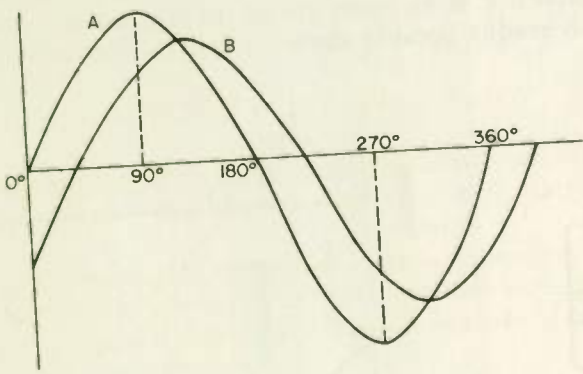

Fig. 14
5. Two sine waves are shown in Fig. 14. Wave (a) _____ lags wave (b) _____ by approximately (c) _____ degrees. Another way of stating this same phase relation between the two waves is to say that wave (d) _____ leads wave (e) _____ by approximately (f) _____ degrees.